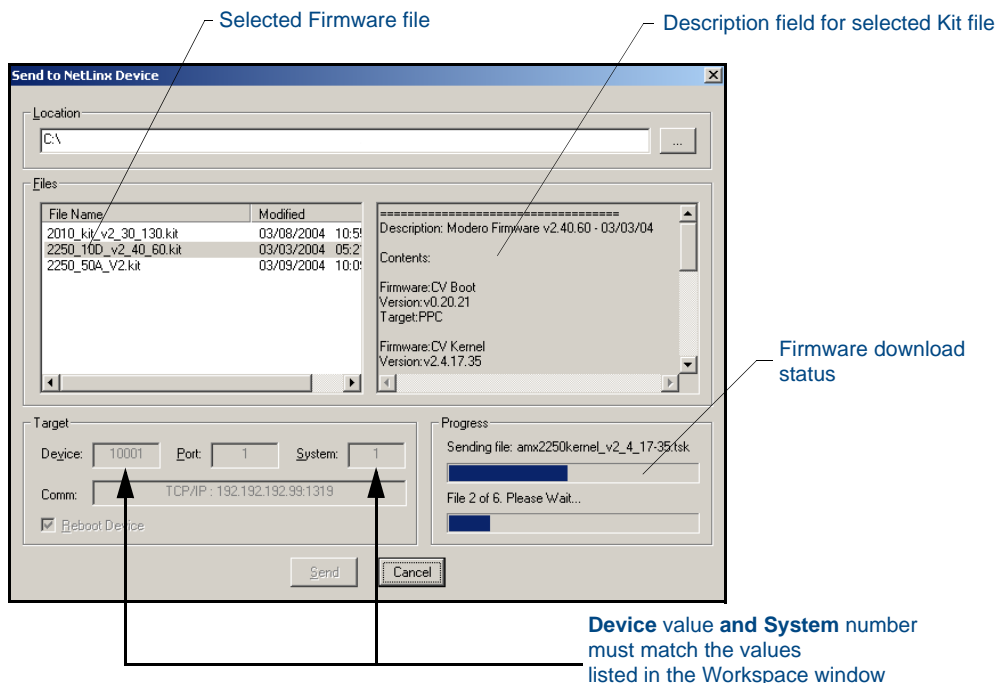

FIG. 77 Send to NetLinx Device dialog (showing Modero firmware update via IP)
6. From within Studio, select **Tools > Firmware Transfers > Send to NetLinx Device** from the Main menu to open the Send to NetLinx Device dialog (FIG. 77). Verify the panel's System and Device number values match those values listed within the System folder in the **OnLine Tree** tab of the Workspace window.
7. Select the panel's Kit file from the **Files** section (FIG. 77).
10. Click **Send** to begin the transfer. The file transfer progress is indicated on the bottom-right of the dialog (FIG. 77).